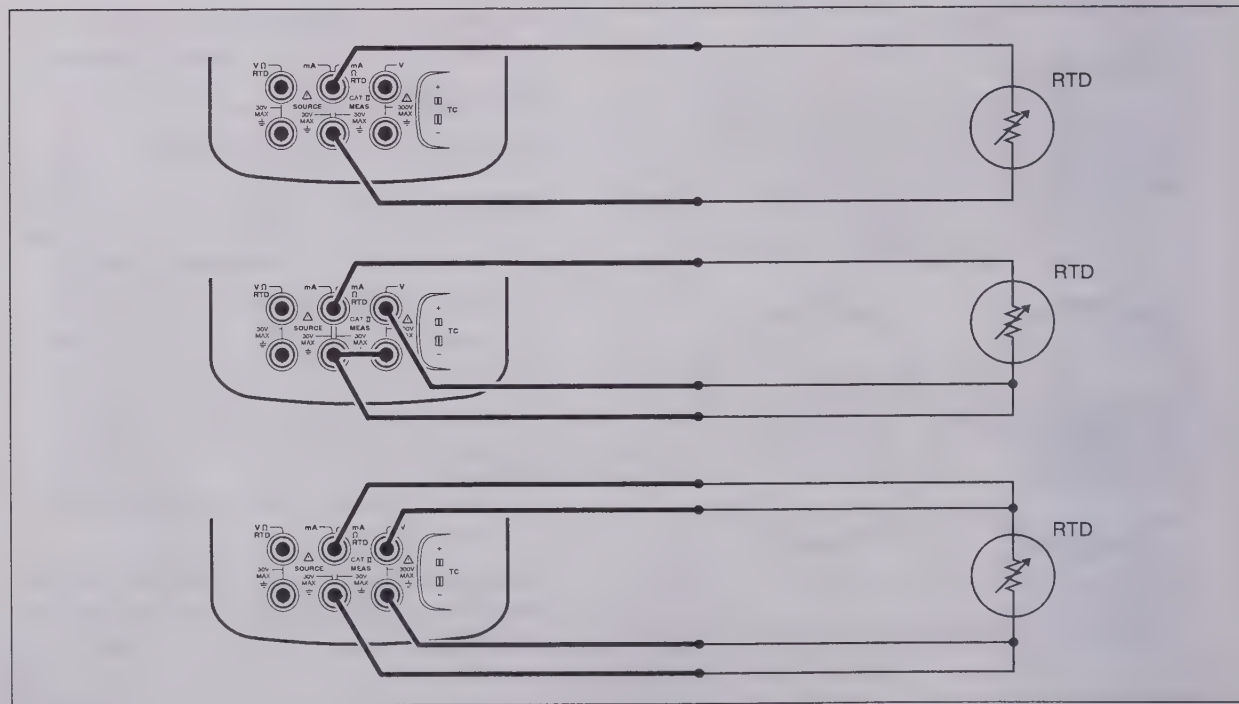

Figure 15. Measuring Temperature with an RTD
terminal configuration. The calibrator accepts RTD measurement inputs in two-, three-, or four-wire connections as shown in Figure 15. A four-wire configuration provides the highest measurement precision, and two-wire provides the lowest measurement precision.
6. Attach the RTD to input jacks as the display or Figure 15 shows. Use the supplied jumper between the mA Ω RTD MEAS low jack and the V MEAS low jack as shown if you are using a 3-wire connection.